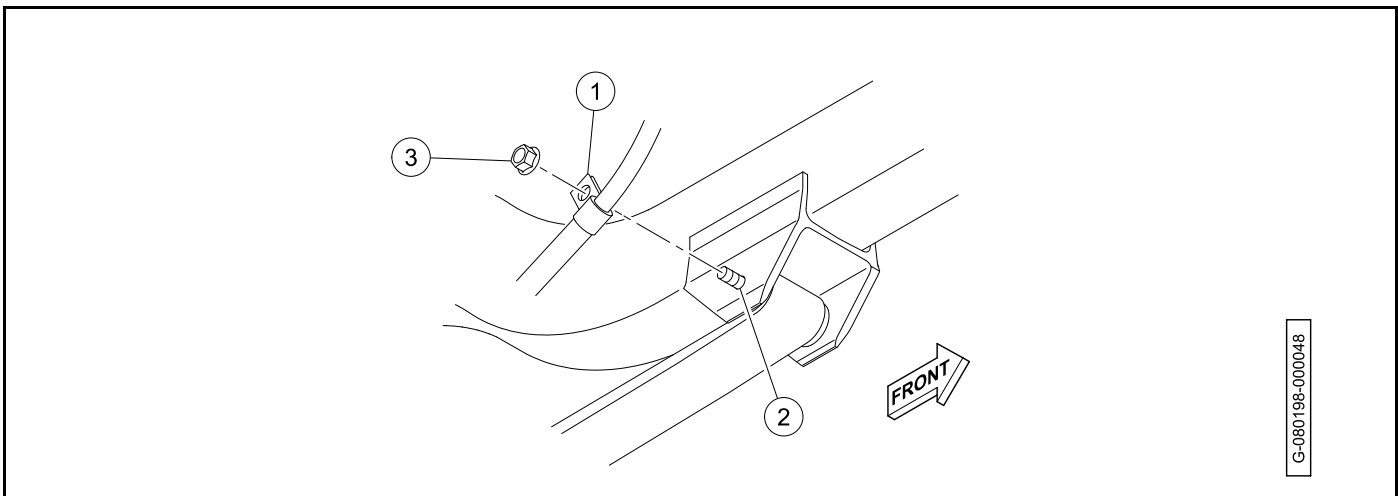

Figure 6-33
5. Install the brake cable (2) on the brake actuator arm.
6. Install the brake cable clevis pin (3).
7. Install the new bow tie pin (4).
8. Install the clamp (1) on the leaf spring bolt (2) **(Figure 6-33)**.